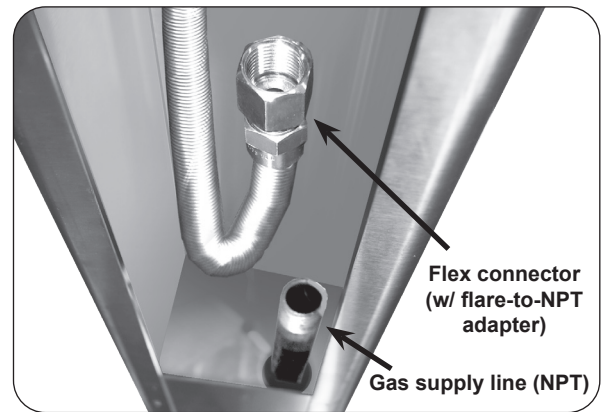

Fig. 24-2 Post interior detail
2. Verify that the gas supply line fits through the gas line clearance hole in the bottom of the post (see Fig. 24-2). The clearance hole is the larger of the two holes in the bottom of the post and is off center.